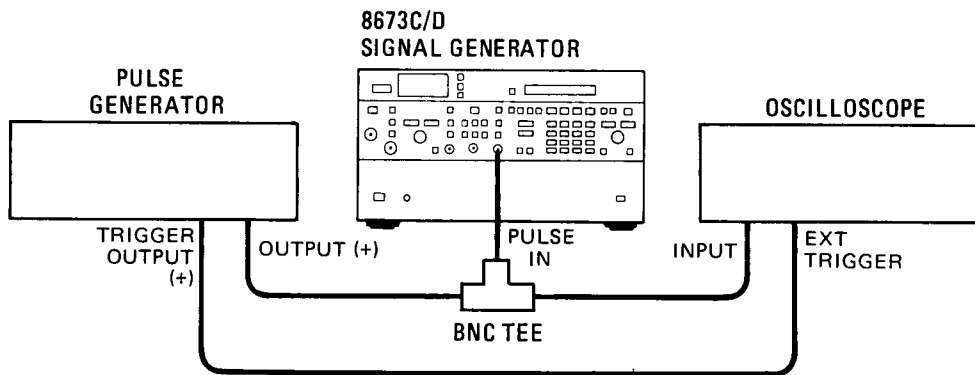

Figure 8-58. A5 Pulse Modulation Check Setup
37. Connect test equipment as shown in Figure 8-58.